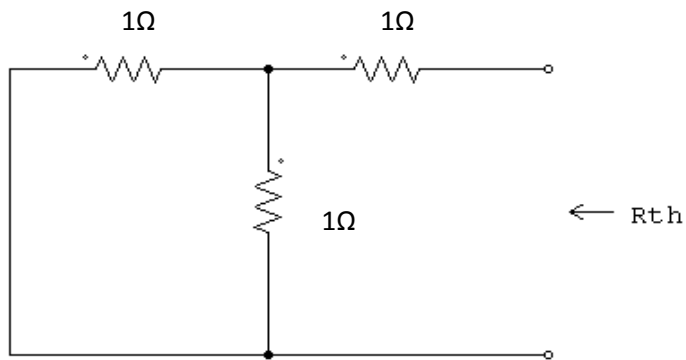

Fig.1.49
Step 1: To find Thevenin's Resistance R_{th} open the load resistance and Voltage source is replaced by short and circuit is redrawn as follows in Fig.1.49.